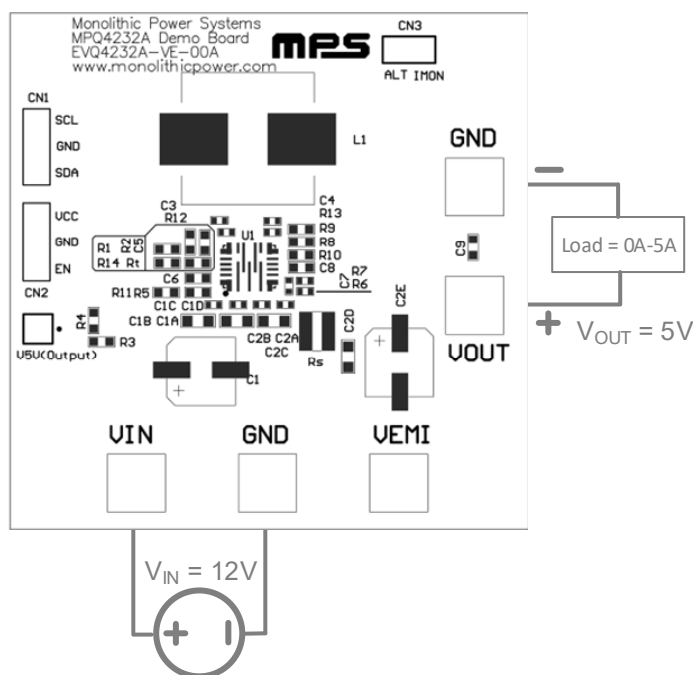

Figure 1: Measurement Equipment Set-Up
The EVQ4232A-VE-00A evaluation board is easy to set up and use to evaluate the performance of the MPQ4232A. For proper measurement equipment set-up, refer to Figure 1 and follow the steps below:
8. Figure 1 shows the measurement equipment set-up.